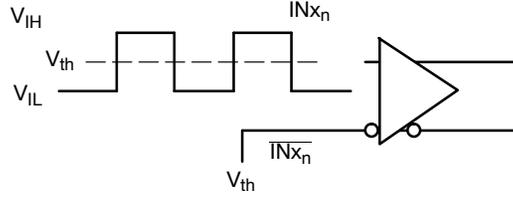

Figure 5. Differential Input Driven Single-Ended
### DIFFERENTIAL INPUT DRIVEN SINGLE-ENDED (Note 6) (Figures 5 and 6)
8. Differential 50% duty cycle at  $V_{INPPmin}$  clock source. Outputs evaluated with 50  $\Omega$  resistors to  $V_{TT} = V_{CC} - 2.0$  V (See Figure 16). Input crosspoint to output crosspoint for INxn/INxn to Qx, Qx; 50% input to output crosspoint for SELx to Qx, Qx. See Figures 5, 10 and 11.